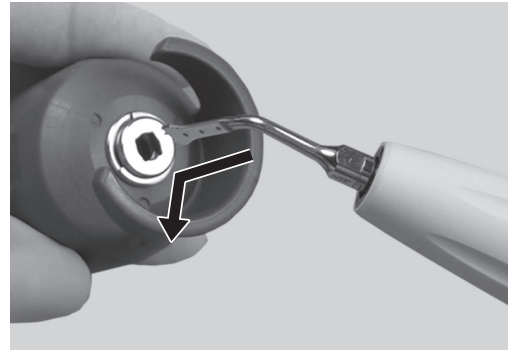

Fig. 16
- 2) Match the square shape of the Tip with the hole of the Tip Wrench, then insert the Tip into the hole. (Fig. 16)